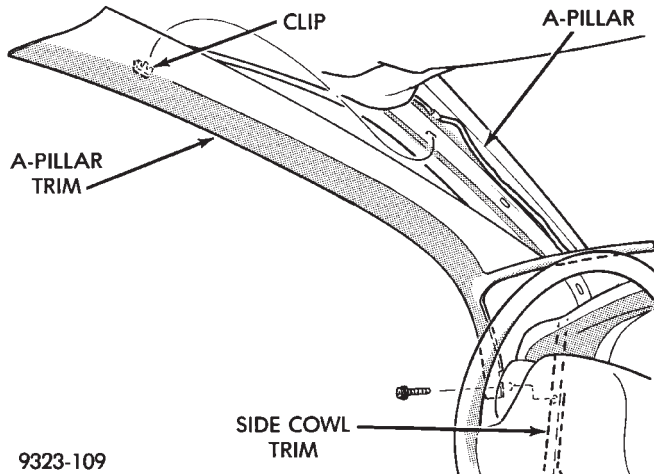

Fig. 56 A-Pillar Trim
- (1) Remove screw holding bottom of A-pillar trim to cowl panel.
- (2) Disengage clips holding trim to A-pillar (Fig. 56).
- (3) Separate A-pillar trim from vehicle.